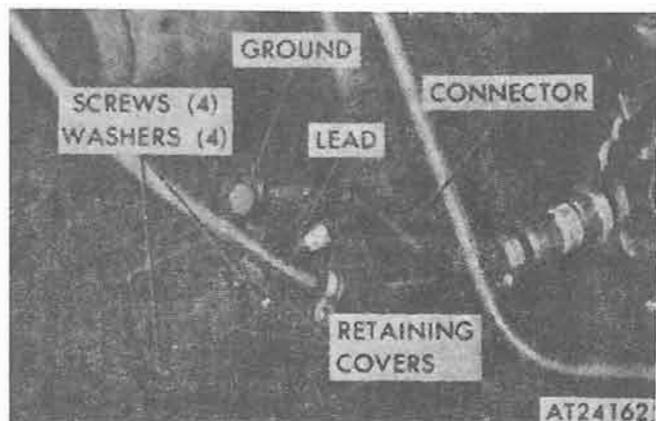

Figure 4-45. Disconnecting or connecting electrical connections at 60-ampere generator.
(22) Disconnect connector at generator. Remove screw, lockwasher, and flat washer securing ground cable at generator (fig. 4-45). Disconnect ground.
(23) Remove four screws and washers securing cap and plate retainer to generator. Disconnect electrical lead at terminal (fig. 4-45).